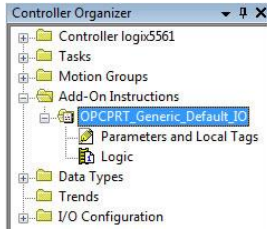

Figure 40: Generic Default IO Add-On Instruction
- 2) Right click on "Add-On Instructions" in the controller organizer view and select "Import Add-On Instruction". Browse and import the generic default I/O add-on instruction. Refer to Figure 40.